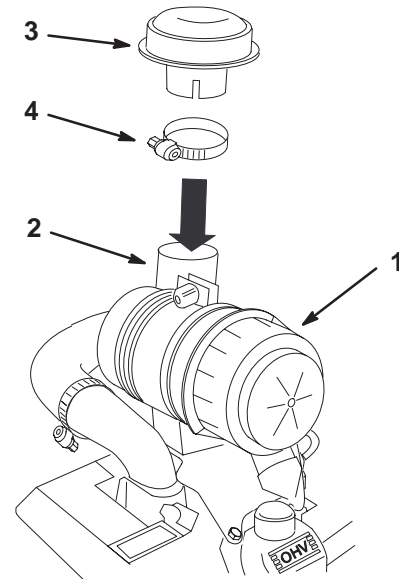

Figure 7
1. Locate the air cleaner cap (Fig. 7).
2. Remove the plastic plug from the air intake in the air cleaner canister (Fig. 7).
3. Place the clamp onto the air cleaner cap (Fig. 7).
4. Slide the clamp and air cleaner cap onto air cleaner canister (Fig. 7).
5. Tighten the clamp to hold the air cleaner cap (Fig. 7).